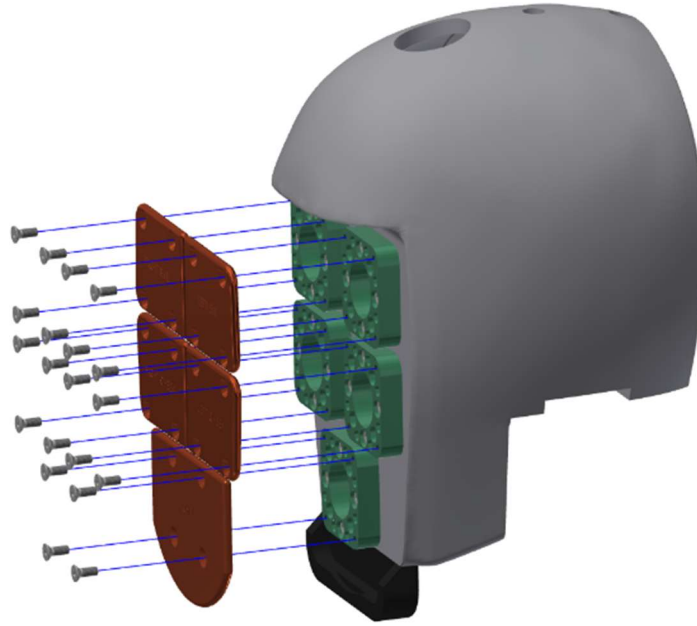

Figure 3-31. Face load cell plates
- 3.3.12 Install the respective load cell plates (474-1412-1, 474-1412-2, 474-1414-1, 474-1414-2, 474-1416) onto the face load cells using four M3 X 0.5 X 8 FHCS per plate (total of 20) (Figure 3-31). Each load cell plate is shaped differently to match the contour of the front of the head casting. Labels on the load cell plates: “L-EYE”, “R-EYE”, “L-CHEEK”, “R-CHEEK”, and “CHIN” describe the load cell attachment location on the face.